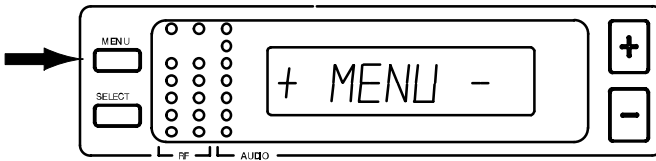

FIGURE 29
1. Press the MENU button. The "+ MENU -" display appears, as shown in Figure 29.